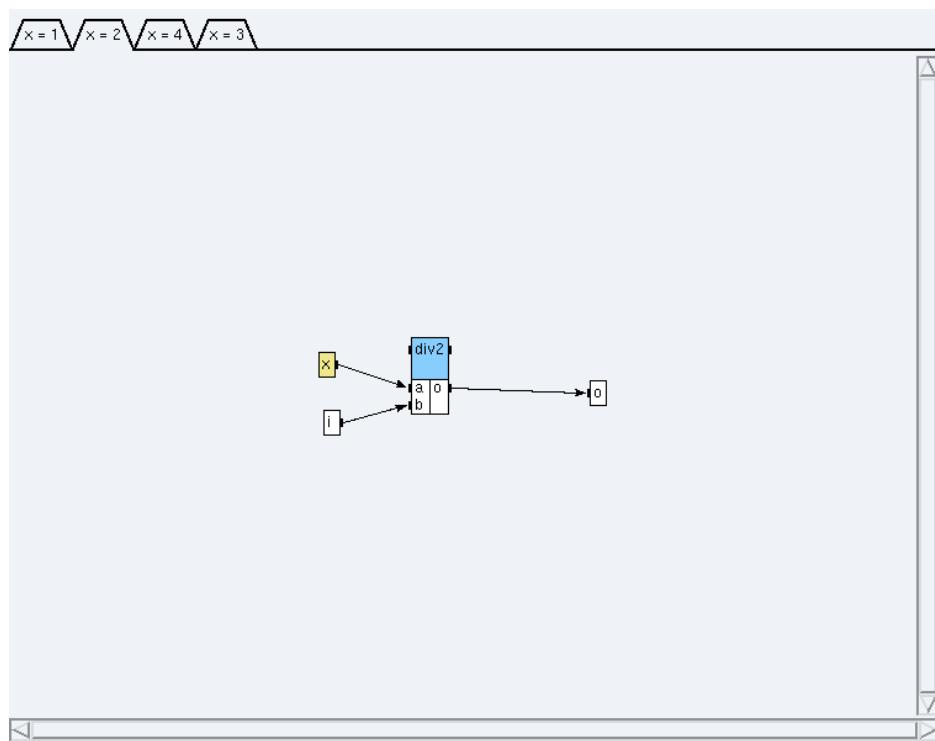

Figure 5.3: Condition $x=2$
- * click on the condition **x=2** (*cf. figure 5.3*) and create a reference `div2<1>` to the definition `int/Arit_div`,